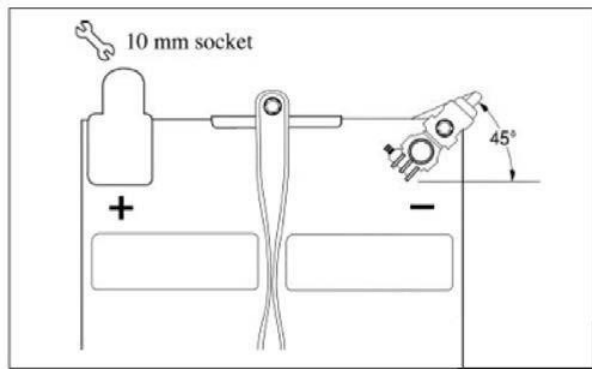

Figure 1a
1. Remove the negative battery cable. (Fig. 1a)